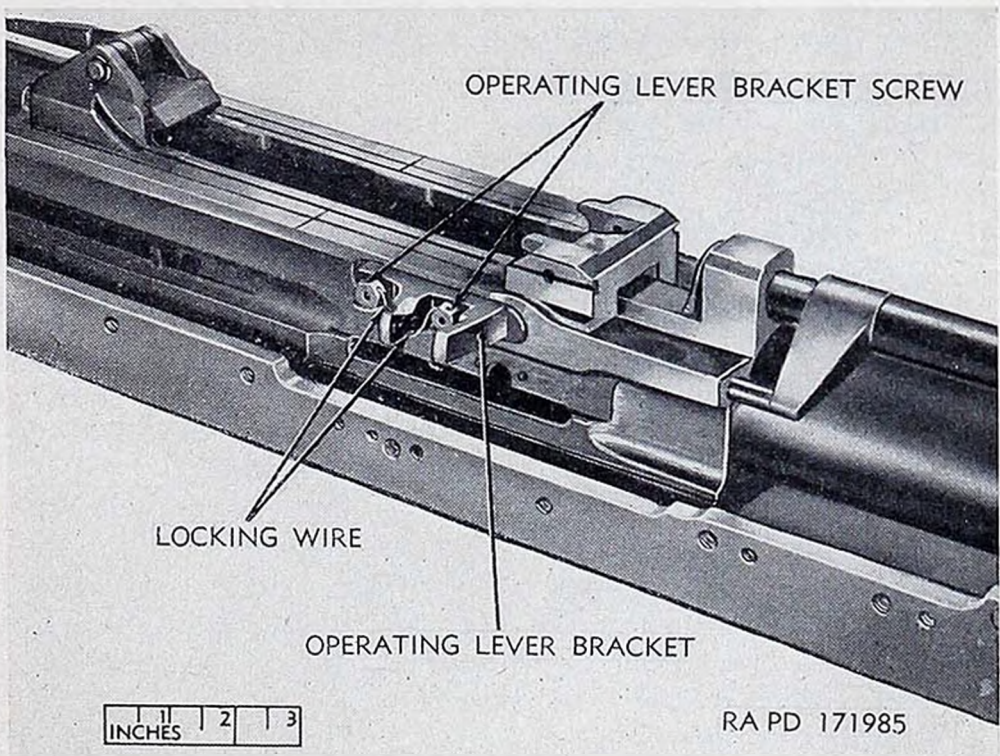

Figure 34. Adjustment of magazine slide and installation of operating lever bracket.
- (10) Cut the locking wire, unscrew the operating lever bracket screws, and remove operating lever bracket (fig. 34) from right side of receiver. Install the operating lever bracket on the left side of the receiver and secure with two operating lever bracket screws and locking wire.
- (10) Cut the locking wire, unscrew the operating lever bracket screws, and remove operating lever bracket (fig. 34) from left side of receiver. Install the operating lever bracket on the right side of the receiver and secure with two operating lever bracket screws and locking wire.